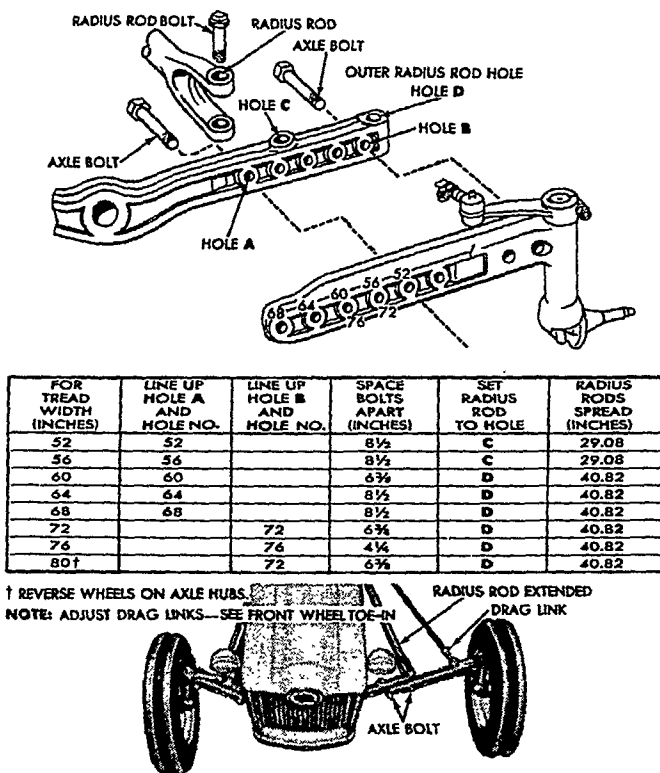

Figure 1—Front Wheel Tread Adjustments—General Purpose Tractors
1. Raise the front of the tractor until the wheels clear the ground. Remove the two bolts from one axle, Figures 1 and 2.
2. Position the axle at the desired tread width and install the two axle attaching bolts. Relocate the radius rod as necessary, Figure 1.